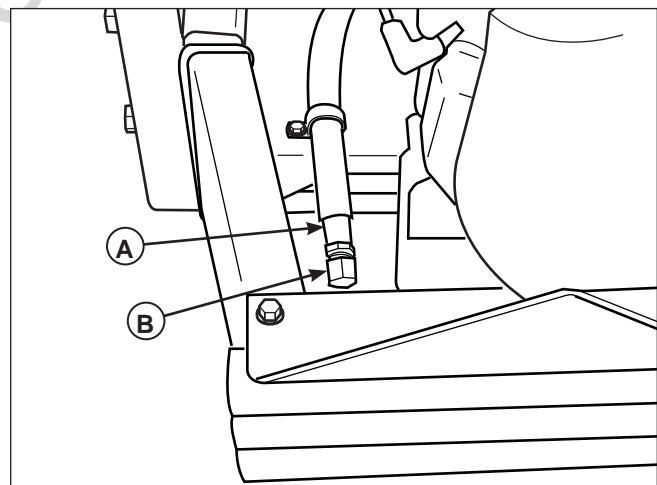

Figure 12. Engine Oil Drain
2. Place a small pan under the oil drain hose to catch the oil. Using the appropriate tools, remove the cap (B, Figure 12) from the oil drain hose (A) and drain the engine oil.